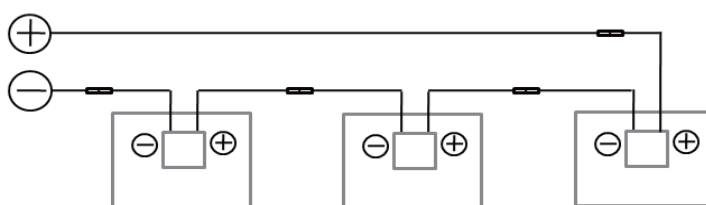
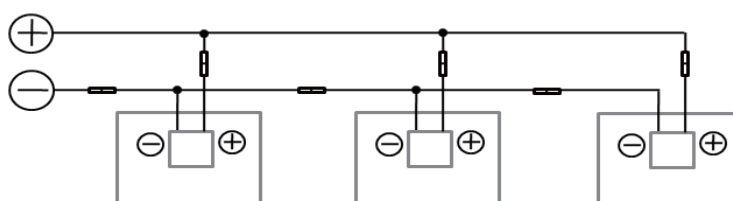
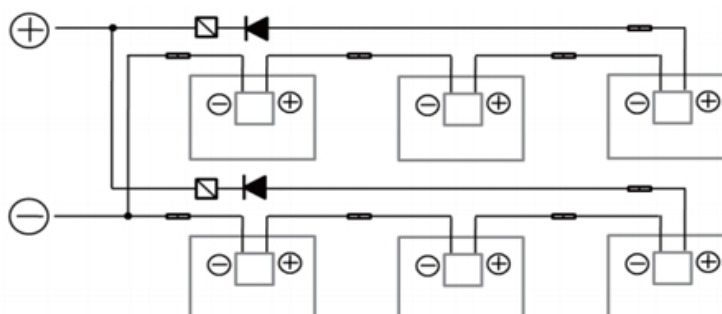

Fig. 10-1 Series Connection
Fig.10-2 Parallel Connection
Fig.10-3 Parallel-series Connection
- In order to ensure the normal running of the system, when connecting modules or loads, please ensure that the polarity of the cable connection is correct. If the modules are incorrectly connected, the bypass diodes and junction boxes may be damaged. PV modules can be connected in series (Fig. 10-1), in parallel (Fig.10-2) and in series-parallel (Fig. 10-3). The number of serial or parallel connections shall be reasonably designed according to the system configuration. Also note that if the number of parallel connections ≥ 2 , there must be an over-current protection device on each string assembly and bypass are used for over current protection, and the maximum over current protection is 35A.